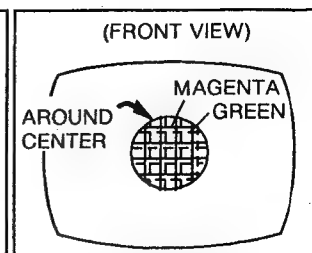

Fig.B-6
4. Rotate the rear pair of tabs (six pole convergence magnets) as a unit to minimize the separation of the magenta (R/B) and green lines. (Fig. B-6)